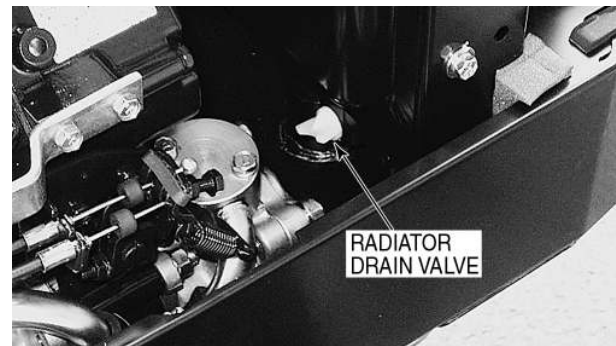
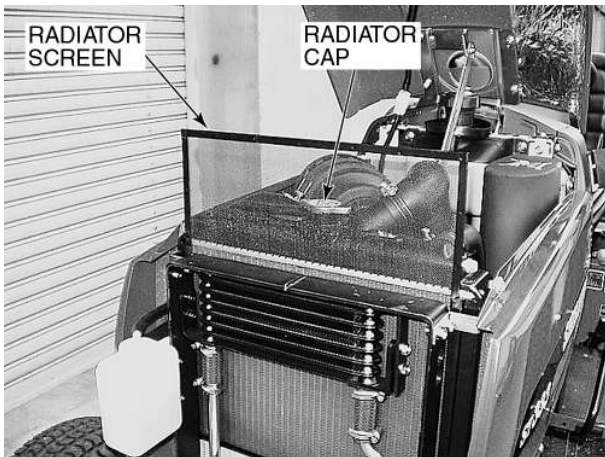

Figure 60 - Engine Block and Radiator Drain Valves
Figure 61 - Radiator Screen and Radiator cap
Keep the radiator fins clear of chaff or dirt to allow free passage of air, Figure 61.
1. Remove the radiator cap, Figure 61 on next page and open the drain valve on both the radiator and the engine block. The radiator drain valve is located on the bottom right side of the radiator. The engine block drain valve is located on the right side of the engine. See Figure 60.
5. Clean the radiator front screen, Figure 61.